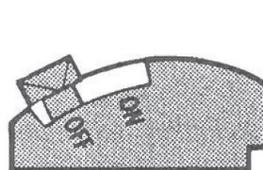

Figure 1
- Move selector arm to the "off" position. (See figure 1.)